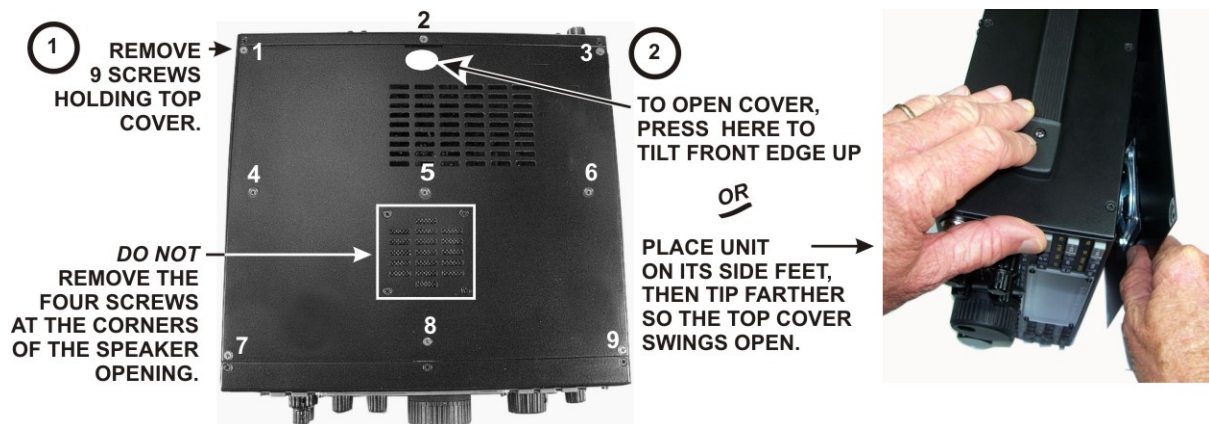
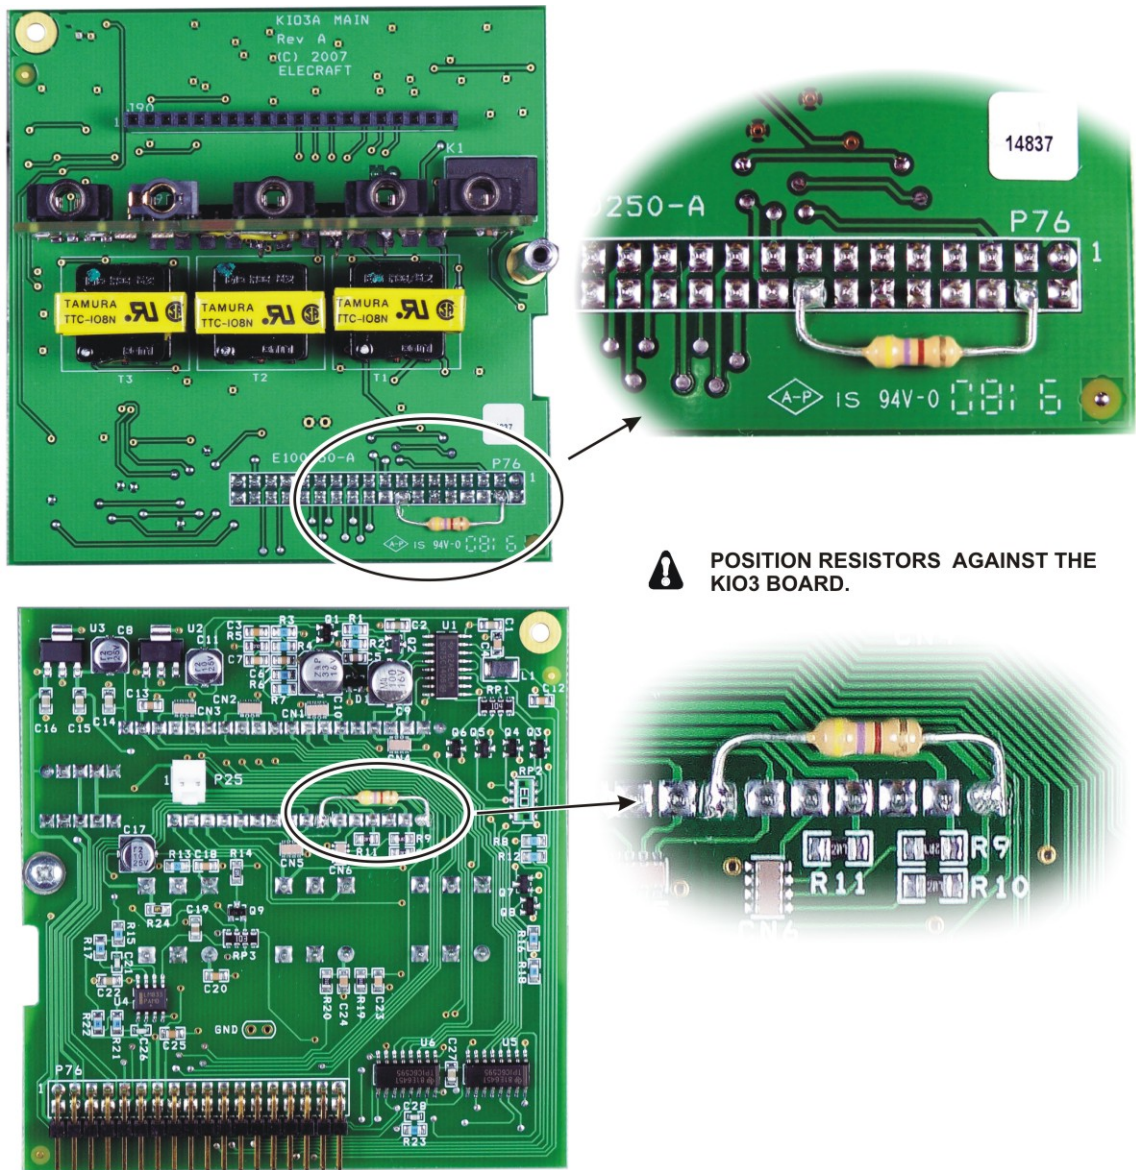

Figure 1. Removing the Top Cover.
Figure 4. Installing the 470 Ohm Resistors.
This modification is needed for all K3s shipped to date containing either a Revision XB or Revision A KIO3 board. You must inspect the KIO3 board to see whether the modification has been made. Modified boards will include the leaded resistors shown in Figure 4. You can see the resistor in the lower part of the figure by removing the top cover as shown in Figure 1 and inspecting the side of the KIO3 board facing away from the rear panel.
Remove the K3 top cover as shown in Figure 1. As you lift the cover off unplug the speaker wire that connects to the KIO3 board in the left rear corner of the K3.
Mount the 470 ohm resistors on the KIO3 main board as shown in Figure 4. Note that one resistor is mounted on each side of the KIO3 board. If it is more convenient, you can remove the standoff and audio I/O board.
- Replace the nine top cover screws shown in Figure 1. Replace and tighten all the screws. Loose or missing screws may result in birdies or other hard-to-locate problems with your K3.